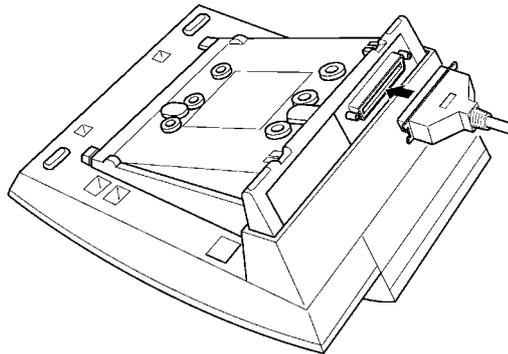

**Figure 4-53: Attaching the Unit to the Multiline Terminal**
3. Plug the unit into the receptacle connector inside the base plate on the Multiline Terminal. Refer to *Figure 4-53:: Attaching the Unit to the Multiline Terminal, Pg 90*.